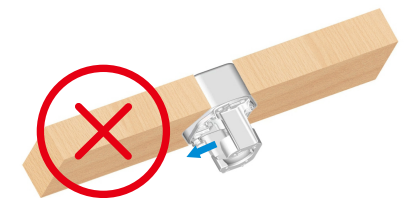

Fig. 6.5
2. Do not install the bracket with the groove facing downward, as shown in Fig. 6.5.